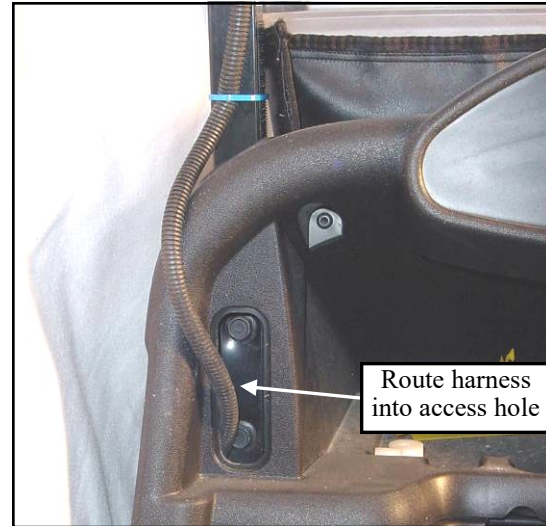

Figure 3.6 (view forward from driver's side)
3.6 Per fig. 3.6, remove the front roof support bolt access cover and route the wire harness down into the wheel well. Notch and replace access cover.